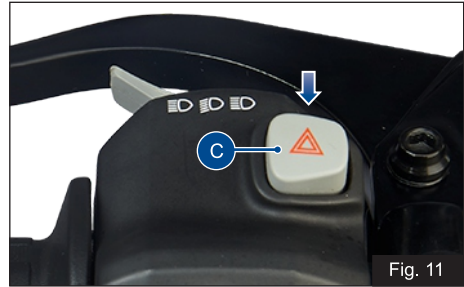

Fig. 11
**C) Hazard switch (ref. Fig. 11)**
- ◆ Press the button ‘’ (C) to turn ON / OFF the hazard lamps.